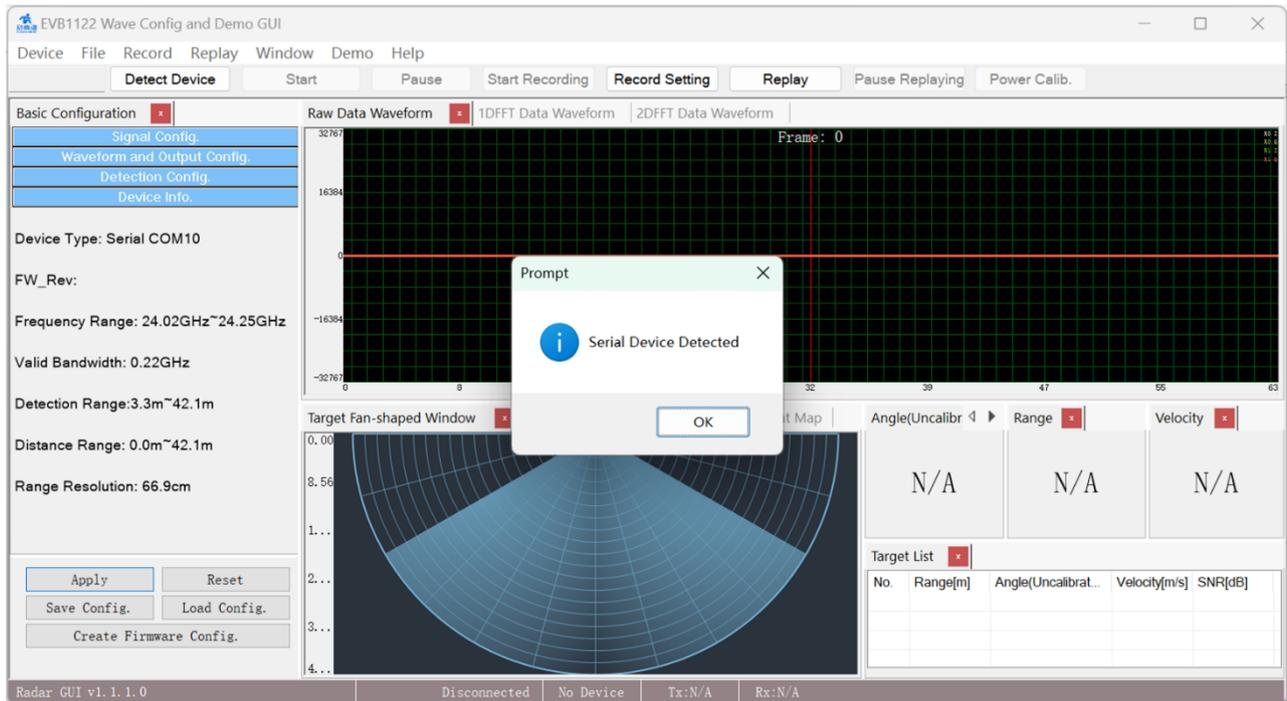

Figure 5-1 The prompt window when a device is detected
Step 2: Open the EVB1122 *Wave Config and Demo GUI* on the host PC; Click **Device** menu to unfold the submenu before click the **Detect Device** submenu, or just click the **Detect Device** button on the toolbar, a prompt window writing *Serial Device Detected!* will appear if the device is successfully connected to the host PC, as shown in Figure 5-1;